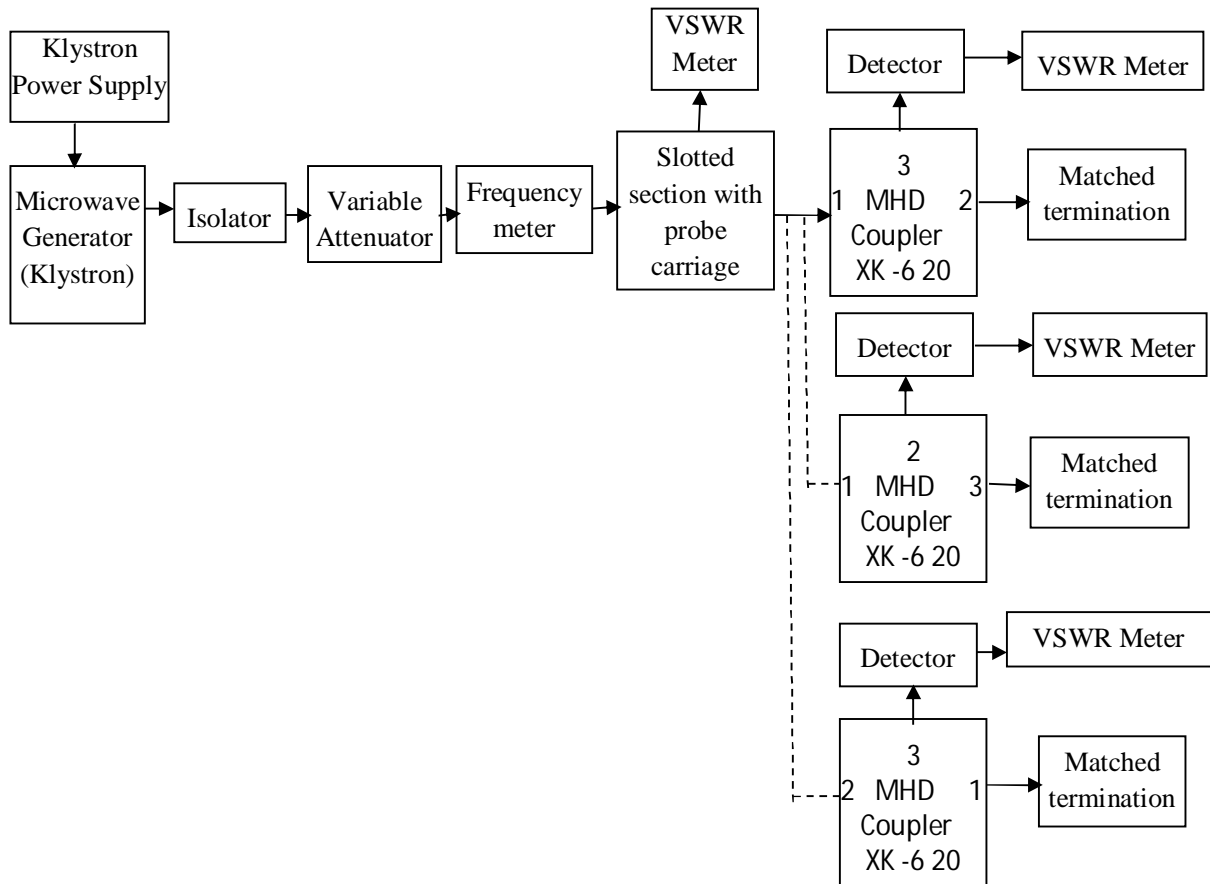

Fig.4.1. Experimental set up for multi-hole directional coupler
A directional coupler is a device which is used to measure the incident and reflected wave separately. It consists of two transmission lines the main arm and the auxiliary arm. Electromagnetically coupled to each other refers to the fig.4.1 The power entering in the main arm gets divided between port 2 and 3 and almost no power comes out in port 4 power entering at port 2 is divided between port 1 and 4.
1. Set up the equipments as shown in Fig.4.1.